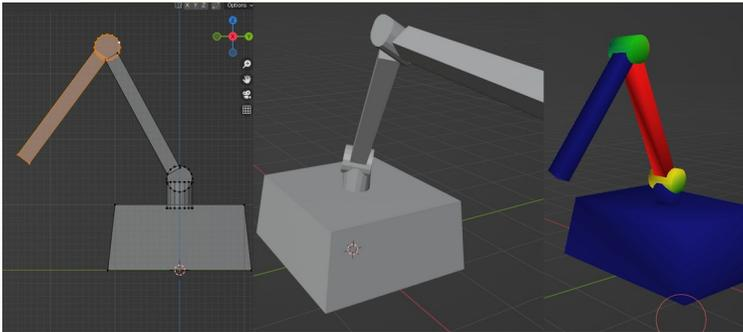

Figure 12-1 The Robot Arm Showing Distortion of the Mesh
Sometimes you need to move parts of an object without inducing any bend or stretch, such as where the material is supposed to be steel or plastic. In the following exercise you will make a robot arm consisting of six very simple meshes, see Figure 12-1. You will then add an armature and see how to constrain and then animate its movement. Links to the files and videos for the exercises in this chapter are at get-into-blender.com *12.ANIMATION AND RIGGING*
3. Now you should arrange all your components into a robot arm shape using the orthographic view along the X axis as shown on the left of Figure 12-1. So long as you specified the Z or Y directions when you did the movements in the last paragraph, everything should lie in the plane $X = 0$, but check this by viewing along the Z or Y axis. You can select all the vertices in each of the meshes by first selecting one vertex then running **Select ▸ Select Linked ▸ Linked**. But note that you will need to do that selection many times during this exercise so you might want to adopt the shortcut **CTRL-L**.
7. You will find that there are two problems as shown in the middle of Figure 12-1. The first is that the joints all behave like ball and socket with no restriction of how far, and about which axis, rotation takes place. The second issue is that the cylinders become distorted as the arm is posed, and move relative to the cuboid section of the arm. Switch back to Object mode, select the robot_arm object and switch to Weight Paint mode. In the Object Data Properties select each of the vertex groups and see how the color varies. On the right of Figure 12-1 the weights are being shown for vertex group Bone.002, some vertices are being affected by more than one bone and, for any given bone, some vertices are being affected more than others. This isn't what you want for a supposedly solid component.